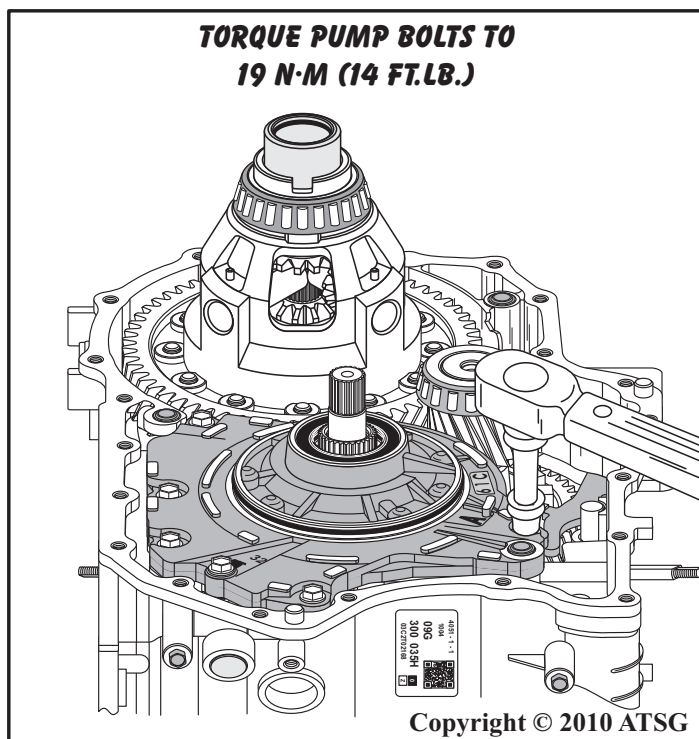

Figure 192
59. Torque all 6 oil pump bolts to 19 N·m (14 ft.lb.), as shown in Figure 192.